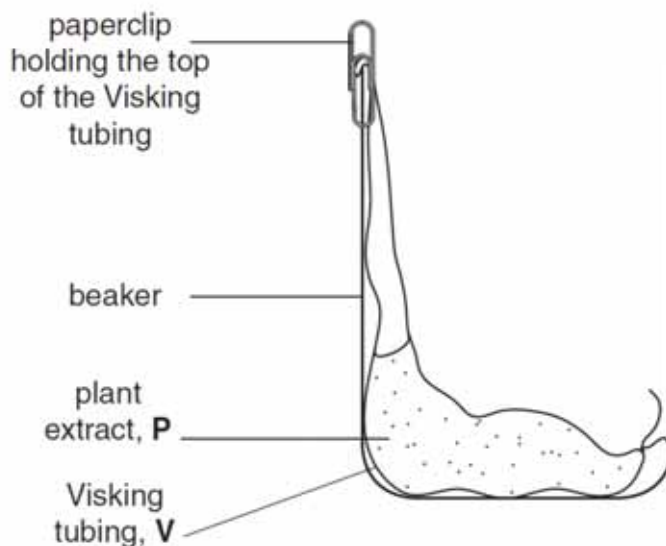

Fig. 1.3
- set up Visking tubing containing **P** as in Fig. 1.3
(iii) Draw **on** Fig. 1.3 the level of the water
17. Then put the Visking tubing into an empty beaker as shown in Fig. 1.3.